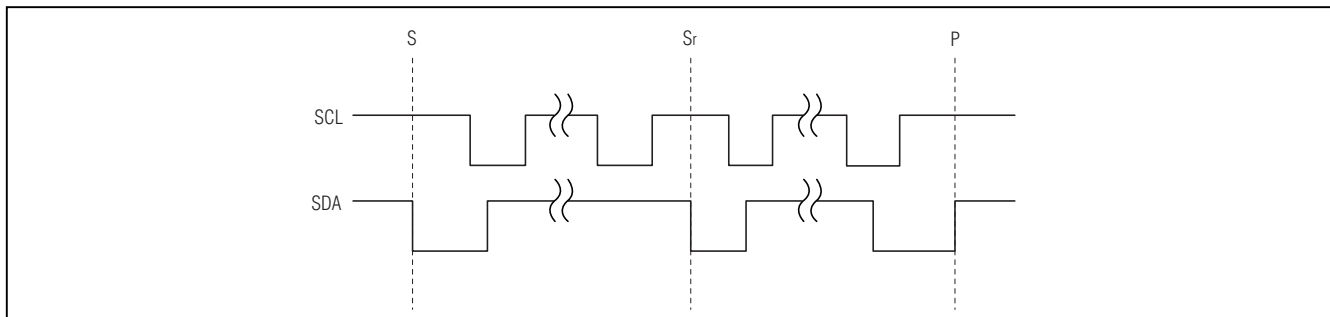

Figure 2. START/STOP Conditions
A master device initiates communication by issuing a START condition (S), a high-to-low transition on SDA with SCL high (Figure 2). The master terminates transmission by a STOP condition (P) (see the *Acknowledge Bit (ACK) and Not-Acknowledge Bit (NACK)* section). A STOP condition is a low-to-high transition on SDA while SCL is high (Figure 2). The STOP condition frees the bus. If a repeated START condition (Sr) is generated instead of a STOP condition, the bus remains active. When a STOP condition or incorrect address is detected, the MAX7469/MAX7470 then ignore all communication on the I²C bus until the next START or REPEATED START condition, minimizing digital noise and feedthrough.